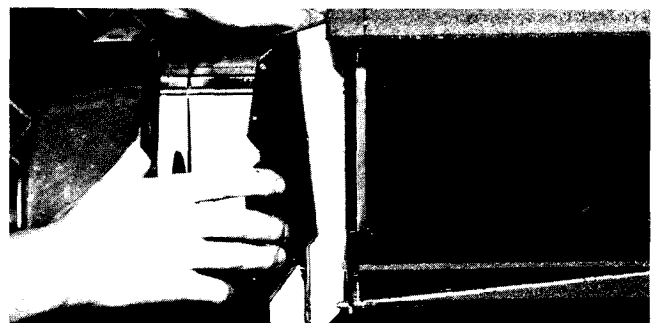

FIGURE 6
7. Gently pry the front of the center support panel to the left, and the rear of the panel to the right. This will cause the panel to come free and the "recirc" and temperature control doors to drop out of their supporting holes in the center support panel (Figure 6).